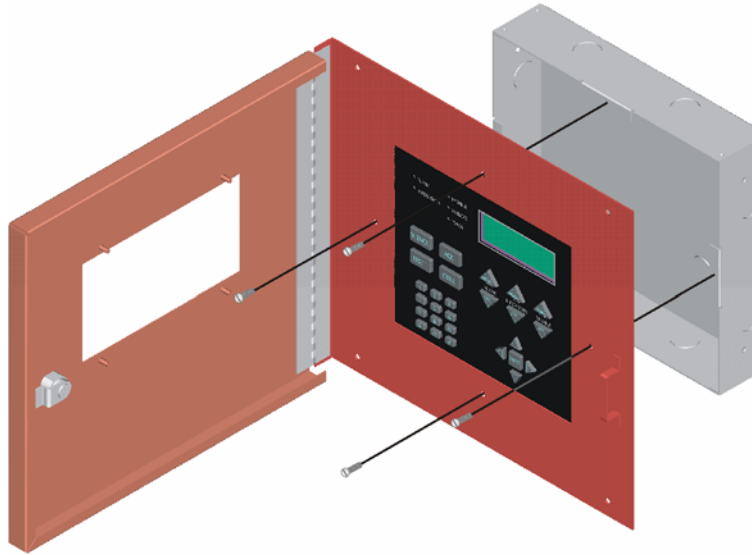

Figure 4.19 Attaching Annunciator/Door Assembly to Backbox
4. Attach the annunciator and door assembly to back box as shown in Figure 4.19 using the supplied screws.